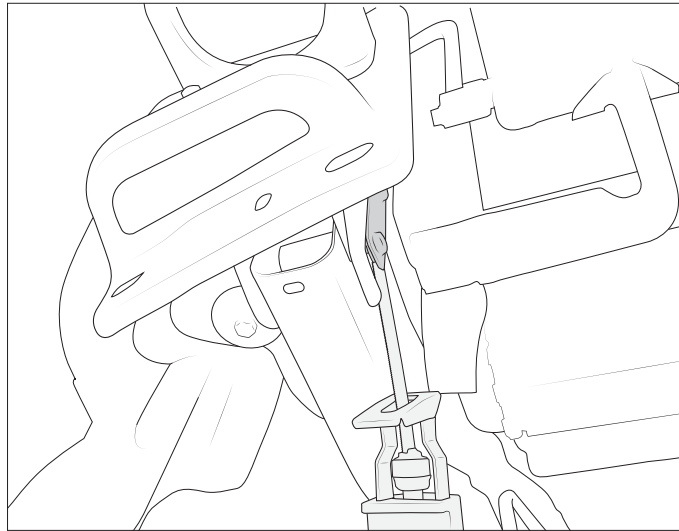

Figure 8
9. On 2010–2013 Diesel trucks remove the remaining bumper brackets by loosening the nuts on the bolt plates and using a reciprocating saw to cut the bolts (fig. 8).